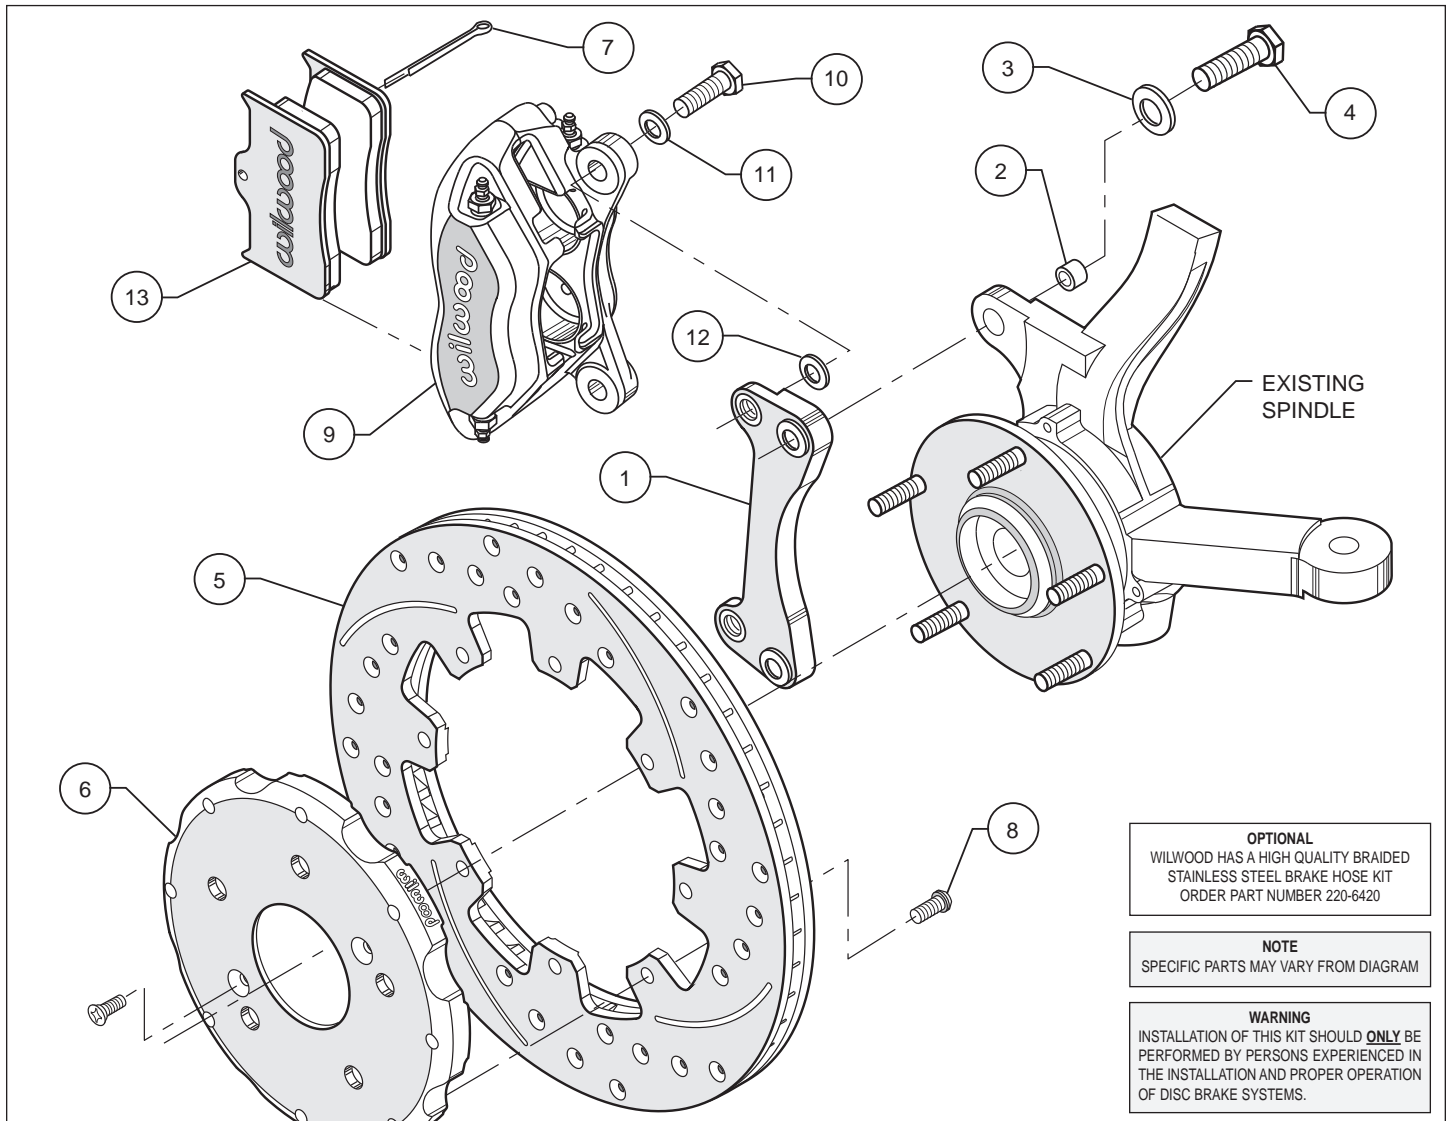

Figure 1. Typical Installation Configuration, Left Hand Application Shown
- Insert one sleeve (2) each into the holes on the top and bottom of the spindle "ears" where the OEM caliper bracket was removed. Apply red *Loctite*® 271 to the caliper mounting bracket bolt threads (4) before installation of the caliper mounting bracket (1). Install the bracket with the flanged head of the clinch nuts facing outboard, as shown in Figure 1. Slide bolt (4) through washer (3) and into the previously installed sleeve (2), from the backside of the spindle. Finger tighten. Repeat for the lower mounting holes. Torque bolts to 60 ft-lb.
- With the larger I.D. side of the rotor (5) facing away from the hat (6), attach rotor (5) to hat (6) using bolts (8) as shown in Figure 1. Using an alternating sequence, remove bolts (8) one at a time, apply red *Loctite*® 271 to the threads, and torque to 25 ft-lb.